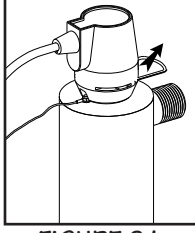

FIGURE 2A
2. Disconnect main power source and allow the unit to power down for 30 sec. Remove the lamp connector by sliding the metal retaining ring (Figure 2A) away from the body of the connector. Remove connector and lamp from the reactor chamber. Separate the lamp from the connector (Figure 2B). Do not twist the lamp from the connector, simply slide the two apart. Avoid touching the lamp on the glass portion. Handling the lamp at the ceramic ends is acceptable, however if you must touch the lamp glass, please use gloves or a soft cloth. Fully remove the lamp from the reactor chamber being careful not to angle the lamp as it is removed from the chamber. If the lamp is removed on an angle, pressure will be applied on the inside of the quartz sleeve, causing the sleeve to fracture.